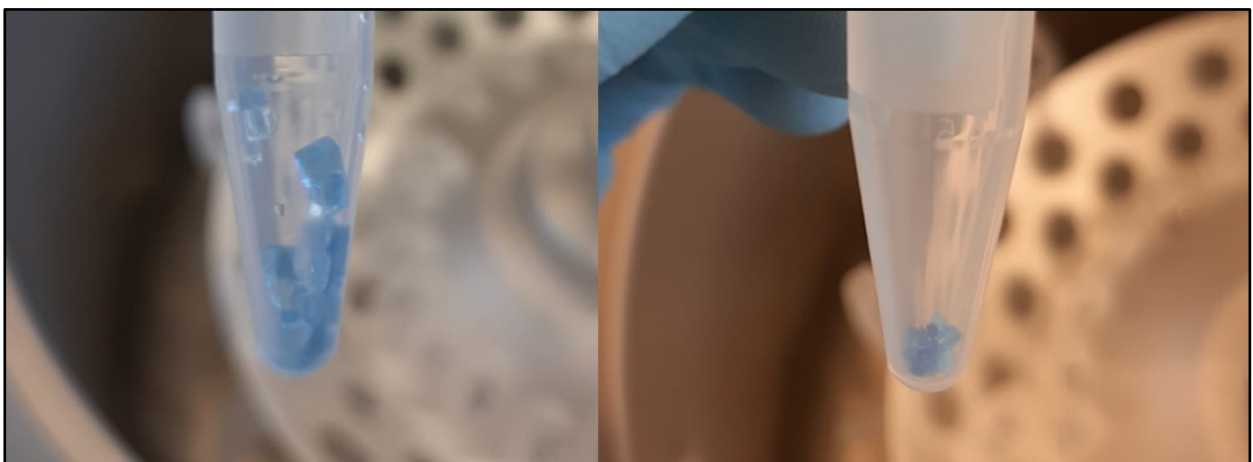

Figure 3: Gel pieces before and after drying in speedvac
13. Dry gel pieces in a centrifugal evaporator (SpeedVac) for **30 min at 60 °C** or until no excess liquid is visible (Figure 3).